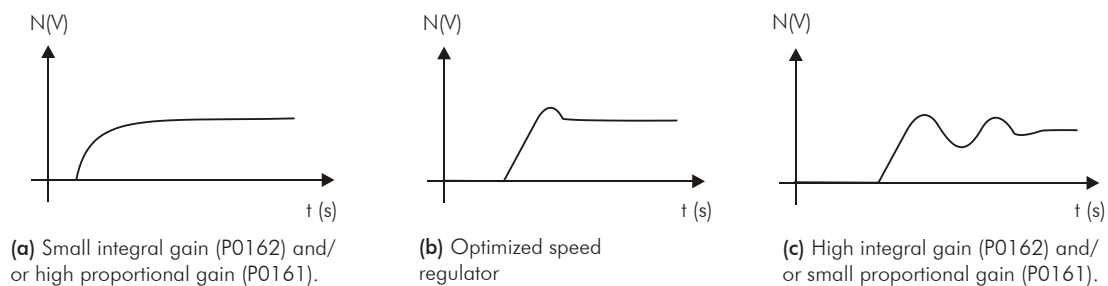

Figure 11.4 - (a) to (c) Speed regulators response types
6. Verify among the options of the Figure 11.4 on page 11-17, which waveform best represents the observed signal.
7. Adjust P0161 and P0162 according to the response type presented in the Figure 11.4 on page 11-17.